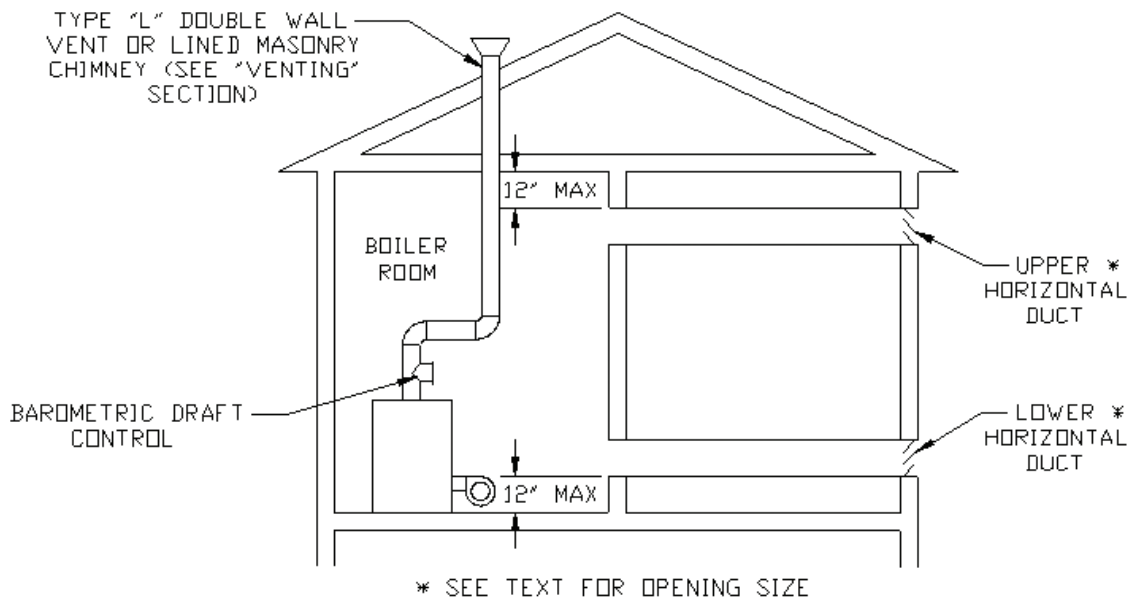

FIGURE 5.4: ALL AIR FROM OUTDOORS, USING HORIZONTAL DUCTS INTO BOILER ROOM
- Openings to outdoors via horizontal ducts (Figure 5.4) - Each opening must have a free cross sectional area of 1 square inch per 2000 BTU/hr of the total input of all fuel fired appliances in the boiler room but not less than 100 square inches. Minimum opening size is 3 inches.